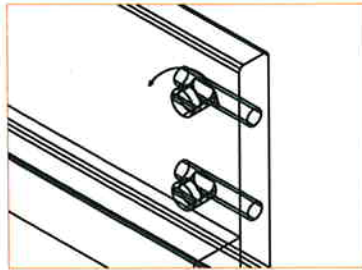

Figure 2
2. Insert the BARREL NUTS (B) into the holes in each BED RAIL as shown in (Figure 1). Make sure the slot on the top of the BARREL NUT is aligned with the hole in the end of the RAILS (Figure 2). Once inserted, use a STANDARD SCREWDRIVER to align the BARREL NUT. This will ensure proper alignment with the bolts later.
Note: Position of ladder should be decided prior to attaching **short guard rail**. Secure the end of the **short guard rail** touching the desired bed- end using 2 **connecting bolts (G)**. (Figure 1). Attach the **mending plate (K)** to the inside of the end-stile on the short guard rail using 2 **wood screws (F)** into the Pre-drilled holes. Attach the mending plate to the inside of side rail using 2 **wood screws (F)**.(Figure 2)